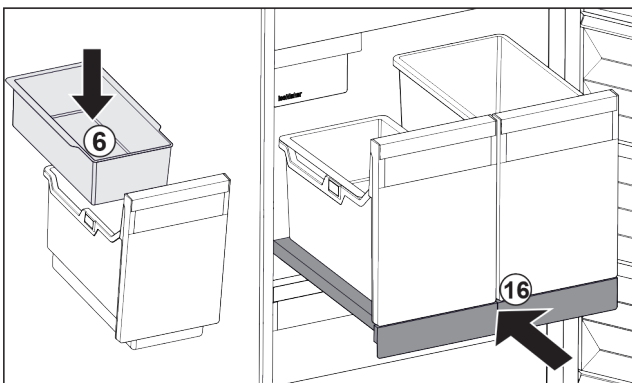

Fig. 87
- ▶ Insert hang-on tray Fig. 87 (6) for ice cubes.
- ▶ Slide in the pull-out board with (IceTower) container. Fig. 87 (16)